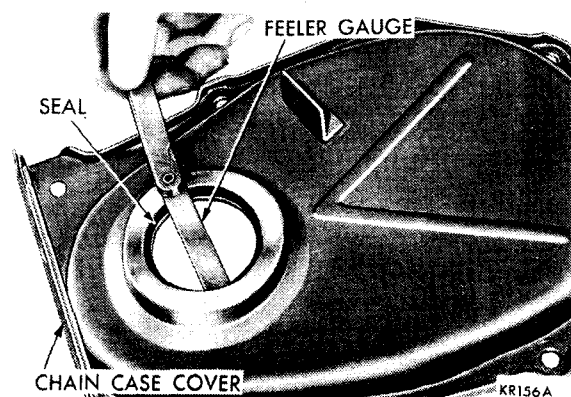

Fig. 21—Inspecting Seal for Proper Seating
(2) Engage the seal case with vise grips. Twist and pull on the vise grips at several places around the seal case for removal.
(3) Insert installing screw through the installing plate, part of Tool C-3506.
(4) Insert installing screw with the plate through seal opening (inside of chain case cover facing up).
(5) Place seal in cover opening, with seal lips down. Place seal installing plate into the new seal, with protective recess toward lip of seal retainer Tool SP-5598, part of Tool C-3506.
(6) Install flat washer and nut on installer screw, hold screw and tighten nut.
(7) The seal is properly installed when the seal case is tight against face of cover. Try to insert a .0015 inch feeler gauge between the case and the cover. If the seal is installed properly, feeler gauge cannot be inserted. Seal must be fully bottomed in cover (Fig. 21).